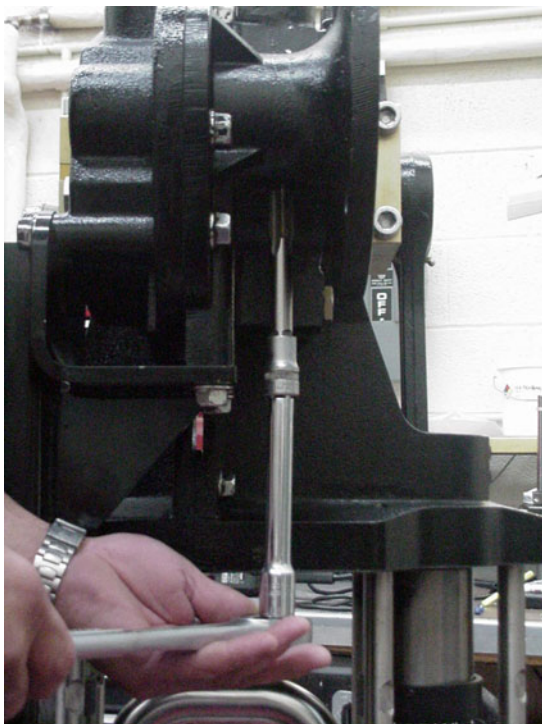

FIG. 4. Tap the Mounting Hole
3. See FIG. 4. Remove the drill guide. Tap the mounting hole, using a M18 x 1.5 thread tap.